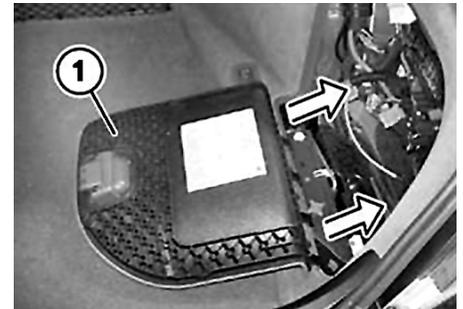

Fig. 2 Access door removal
4. Snap door (1) in direction of arrow and remove, Fig. 2.